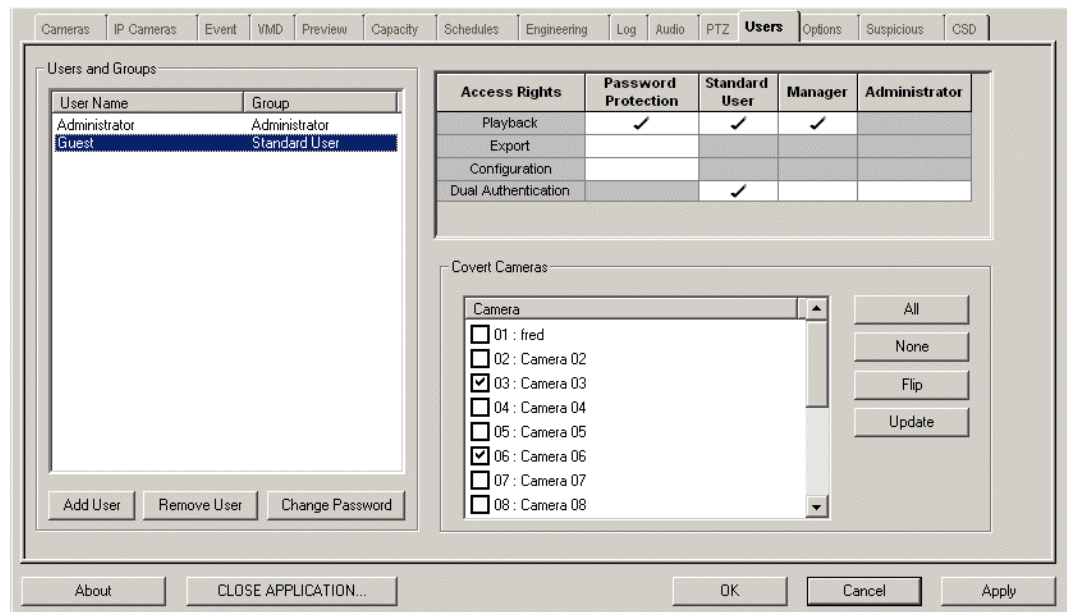

Figure 8-4: Creating a new User Account
1. Open the **Users** tab of the Configuration Console as shown in Figure 8-4.